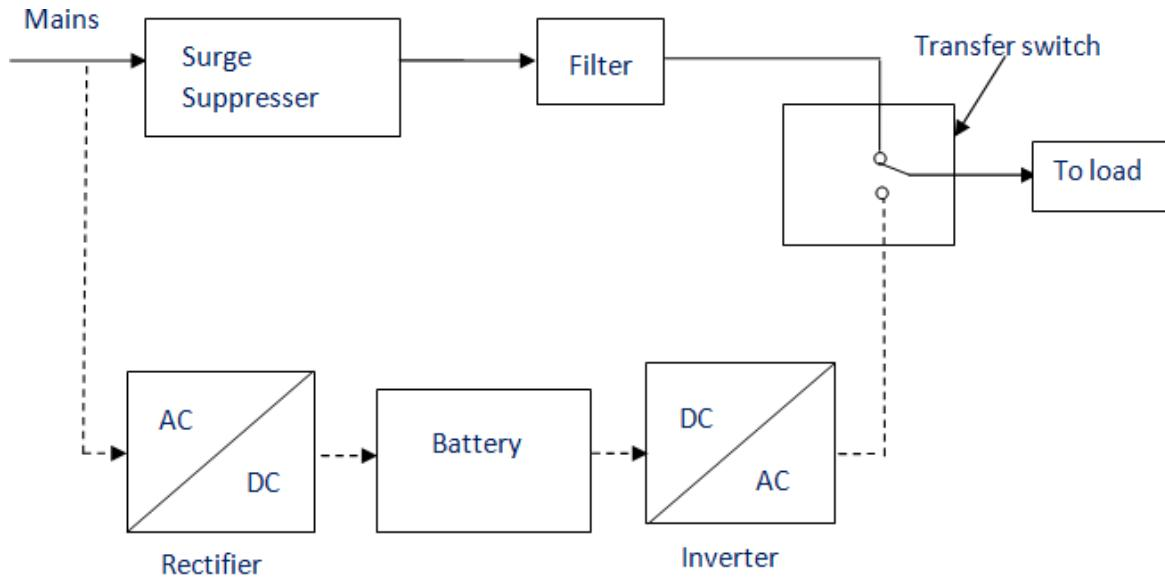

Figure 1
1). When the power breakage occurs, the transfer switch will select the backup source (shown in dashed path in figure 1).